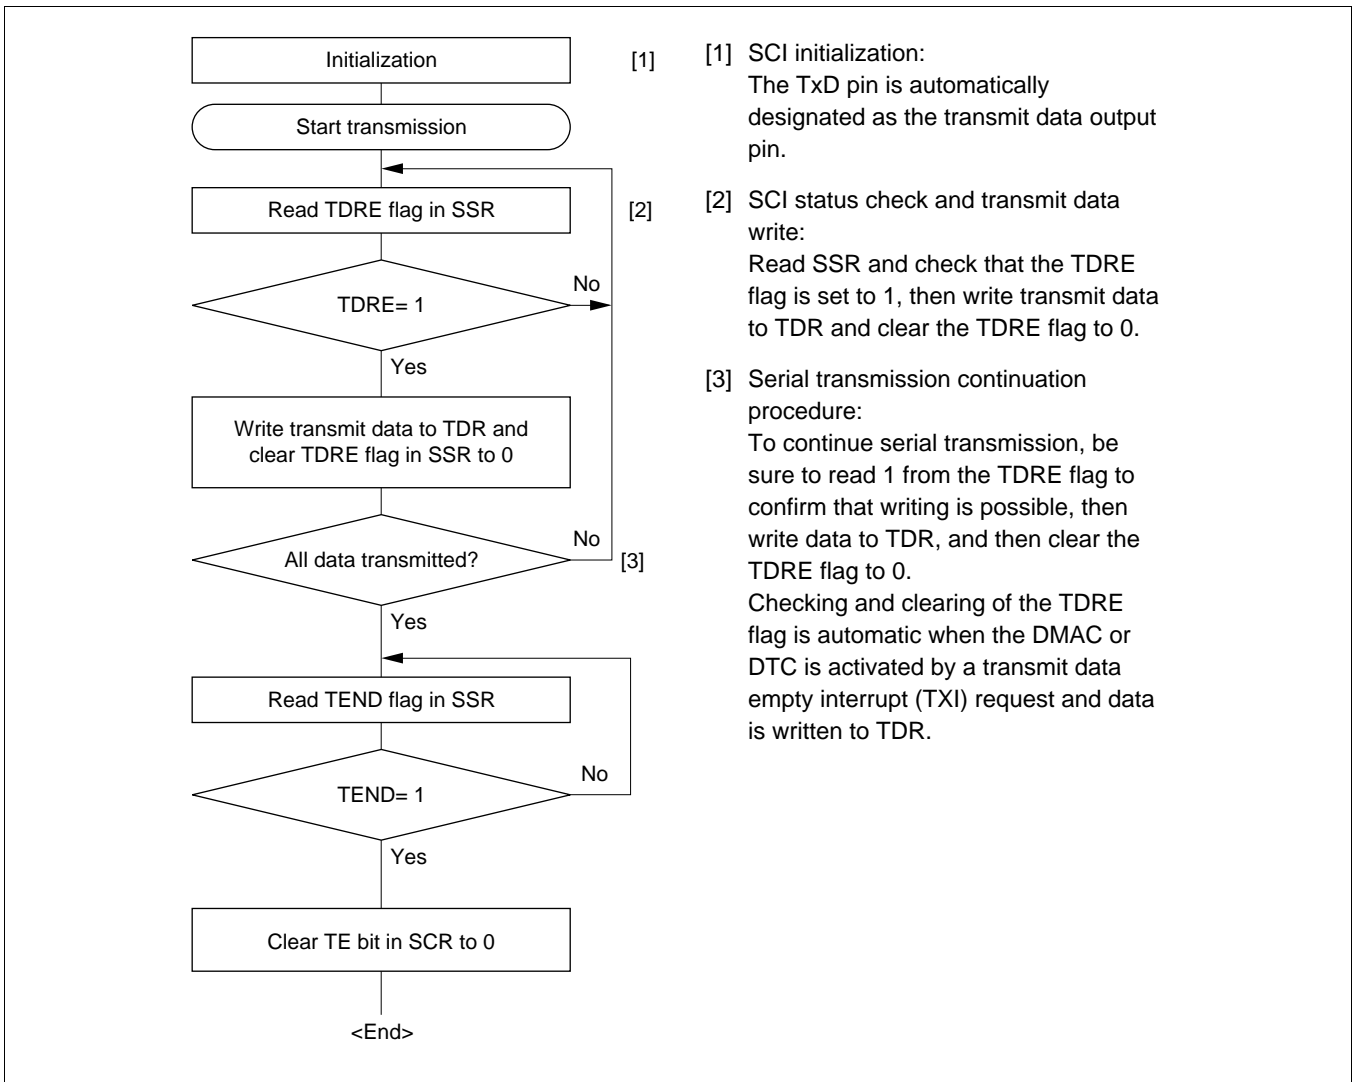

Figure 14-16 Sample Serial Transmission Flowchart
- Figure 14-16 shows a sample flowchart for serial transmission.